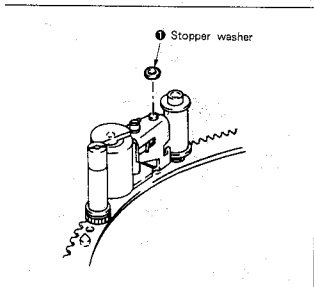

Fig. 7-14.
-) Remove stopper washer ①. (See Fig. 7-14.)